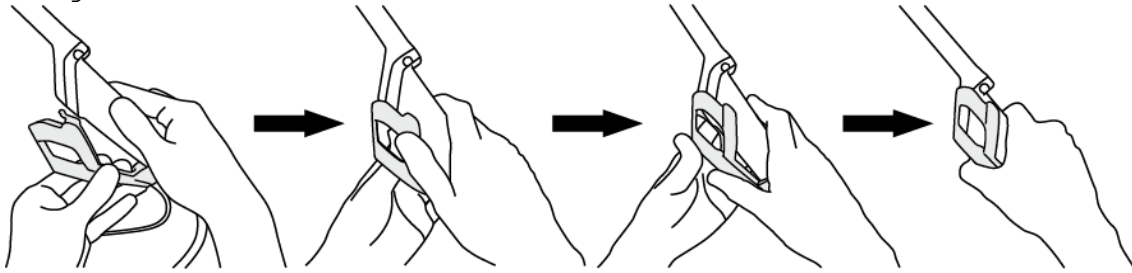

Fig.15 How to attach the Magnetic sensor attachment
b) Attach the Magnetic sensor attachment to the probe as shown in Fig.15.